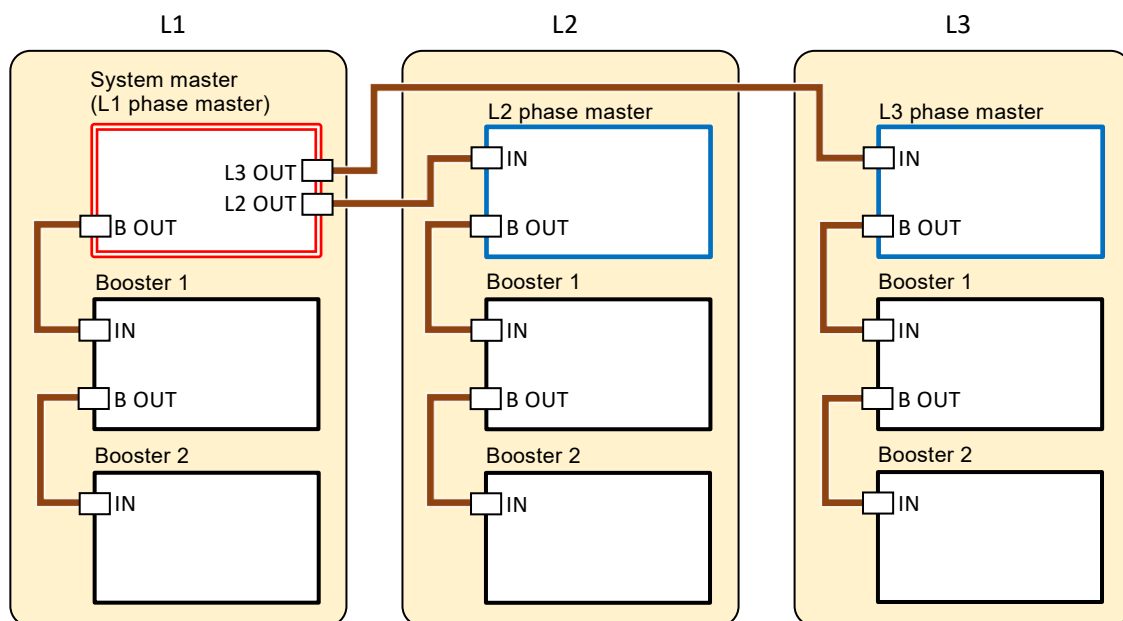

Figure 2-5 Maximum System Configuration
Figure 2-5 shows the connection of the SYSTEM connector of each unit for the maximum system configuration.
1. Connect the system cable to the SYSTEM connector while referring to *Figure 2-5*.